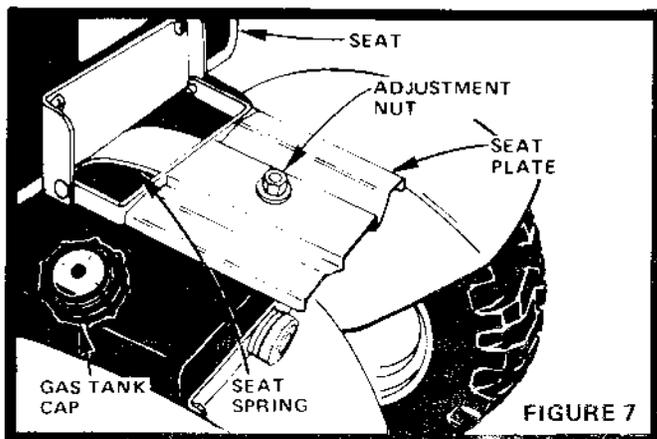

FIGURE 7
- Seat position may be adjusted forward or backward by loosening Nut in Seat Plate (Fig. 7). NOTE WHEN RE-TIGHTENING NUT AFTER ADJUSTMENT, MAKE SURE SEAT PLATE HAS NOT TWISTED OUT OF ALIGNMENT WITH SEAT SPRING.
- Fill Fuel Tank (Fig. 7) with fresh regular grade lead-free or leaded gasoline. Capacity is 3 - 1/4 gallons. NOTE: DO NOT SWITCH FROM LEADED TO LEAD-FREE GASOLINE.